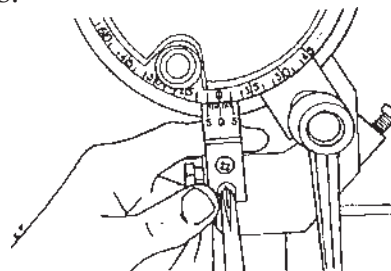

Figure B-67
31. To adjust the scale, use a medium Phillips screwdriver to loosen the two screws which hold the indicator to the tie bar. See Figure B-67. Then while holding the indicator in position so the "0"s are aligned, retighten the screws.